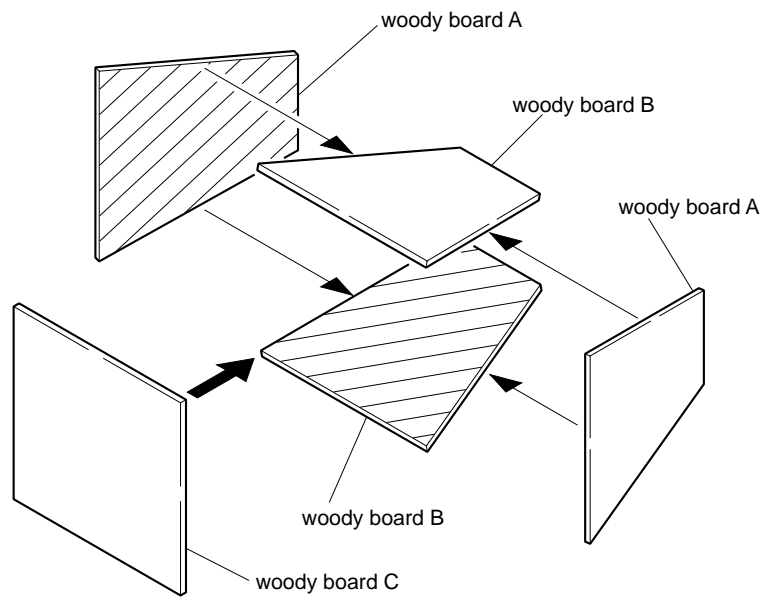

Fig. 5-1-9
- 4) Assemble so that the black sides and the background paper side of woody board A, B and C are internal. (Fig 5-1-9)